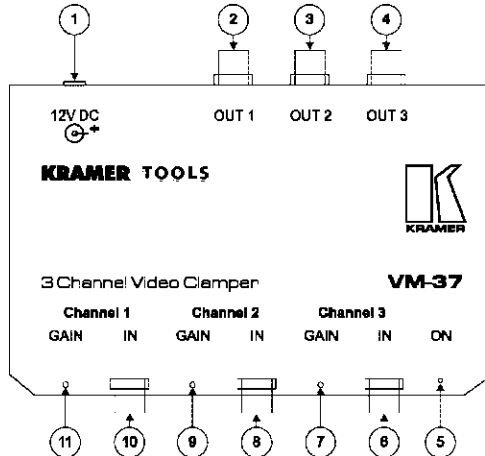

Figure 1: VM 37 “3 Channel Video Clamper”
You can connect the **VM-37** “3 Channel Video Clamper” to up to 3 separate channels, as section 4.1 describes. You can also connect it as an RGB video clamper, or as a component video clamper, as sections 4.2 and 4.3 describe, respectively. Figure 1 and Table 1 define the **VM-37**:
¹ For example, to adjust the level for channel 2, insert a screwdriver into the appropriate hole (item 9 in Figure 1) and carefully rotate it